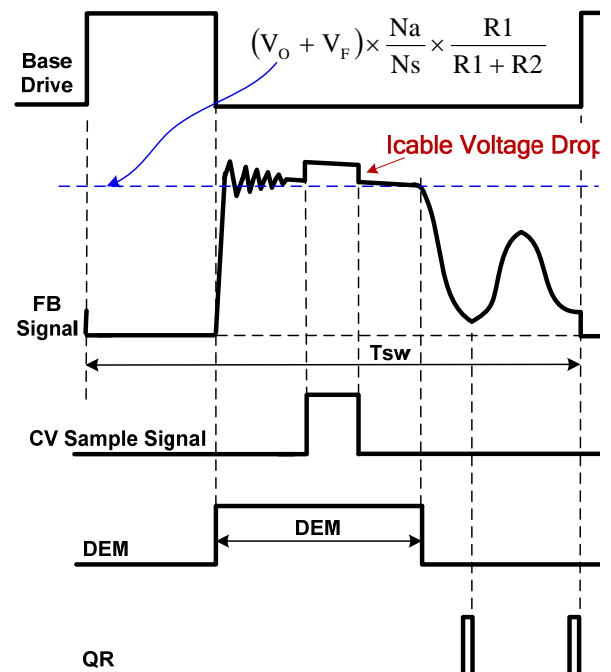

Fig.2
In Primary Side Regulation (PSR) control, the output voltage is sensed on the auxiliary winding during the transfer of transformer energy to the secondary. Fig.2 illustrates the timing waveform of CV sampling signal, demagnetization signal (DEM) and quasi-resonant (QR) trigger signal in ATC9213. When the CV sampling process is over, the internal sample/hold (S&H) circuit captures the error signal and amplifies it through the internal Error Amplifier (EA). The output of EA is sent to the Quasi Resonant PSR CV Modulator (QR-CVM) for CV regulation. A valley is selected to trigger new PWM cycle by the output of the QR-CVM block, which is determined by the load. The internal reference voltage for EA is trimmed to 2V with high accuracy.
During the CV sampling process, an internal variable current source is flowing to FB pin for Cable Drop Compensation (CDC). Thus, there is a step at FB pin in the transformer demagnetization process, as shown in Fig.2. Fig.2 also illustrates the equation for